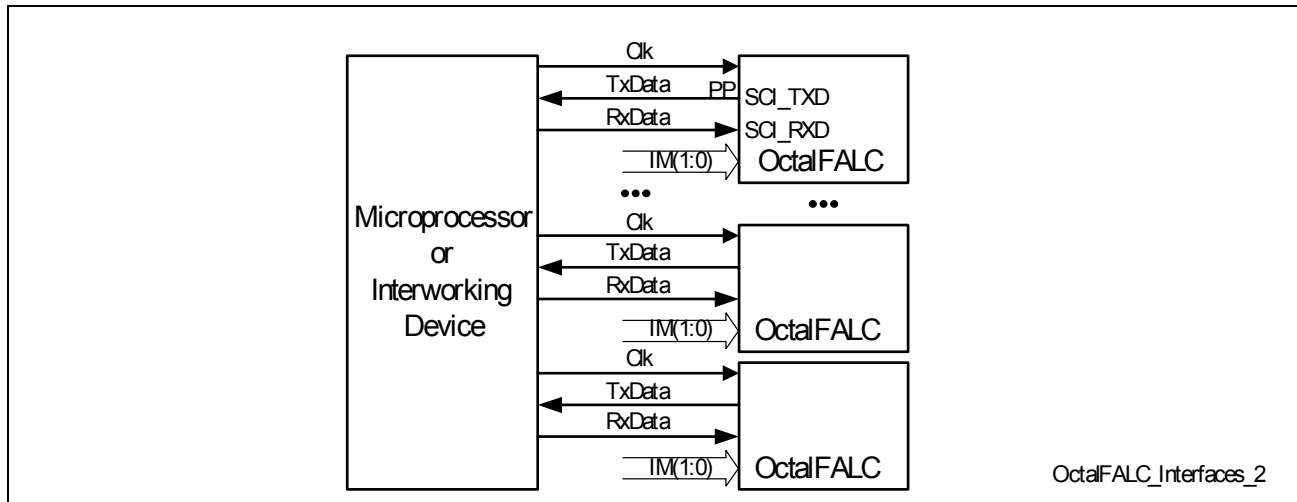
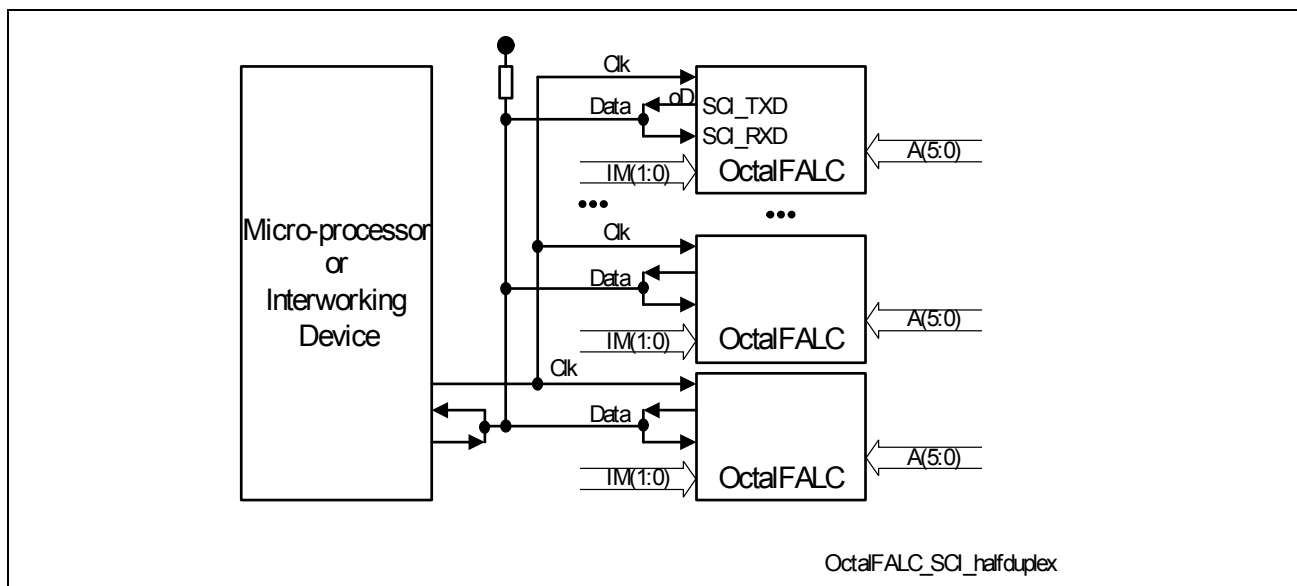

Figure 9 SCI interface Application with Point to Point Connections
Figure 10 SCI interface Application with Multipoint to Multipoint Connection
Figure 9 shows a first application using the SCI interfaces of some OctalFALC™s where point to point full duplex connections are realized between every OctalFALC™ and the microcontroller. Here the data out pins of the SCI interfaces (SCI_TXD) of the OctalFALC™s must be configured as push-pull (PP), see configuration register bit PP in **Table 5**.
Figure 10 shows an application with Multipoint to multipoint connections between the OctalFALC™s and the microcontroller (half duplex). Here the data out pin of the SCI interfaces (SCI_TXD) of all OctalFALC™s must be configured as an open Drain (oD), see configuration register bit PP in **Table 5**. Data out and data in pin (SCI_RXD) of every OctalFALC™ are connected together and build the common data line. Together with a common pull up resistor for the data line, all open Drain data out pins are building a wired And.
- Arbitration always made with LAPD (only SCI applications like in Figure 9 and Figure 10 are possible), bit ARB = '0_B'